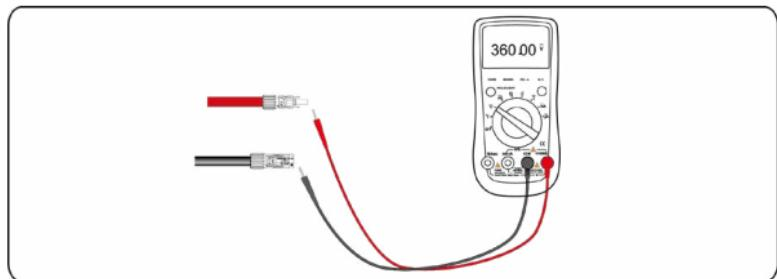

Figure 5.14 Checking the voltage of every route Strings
**Step 5** Measure the voltage of every route Strings using a multimeter. Ensure that the polarities of the DC input power cables are correct, as shown in **Figure 5.14**.